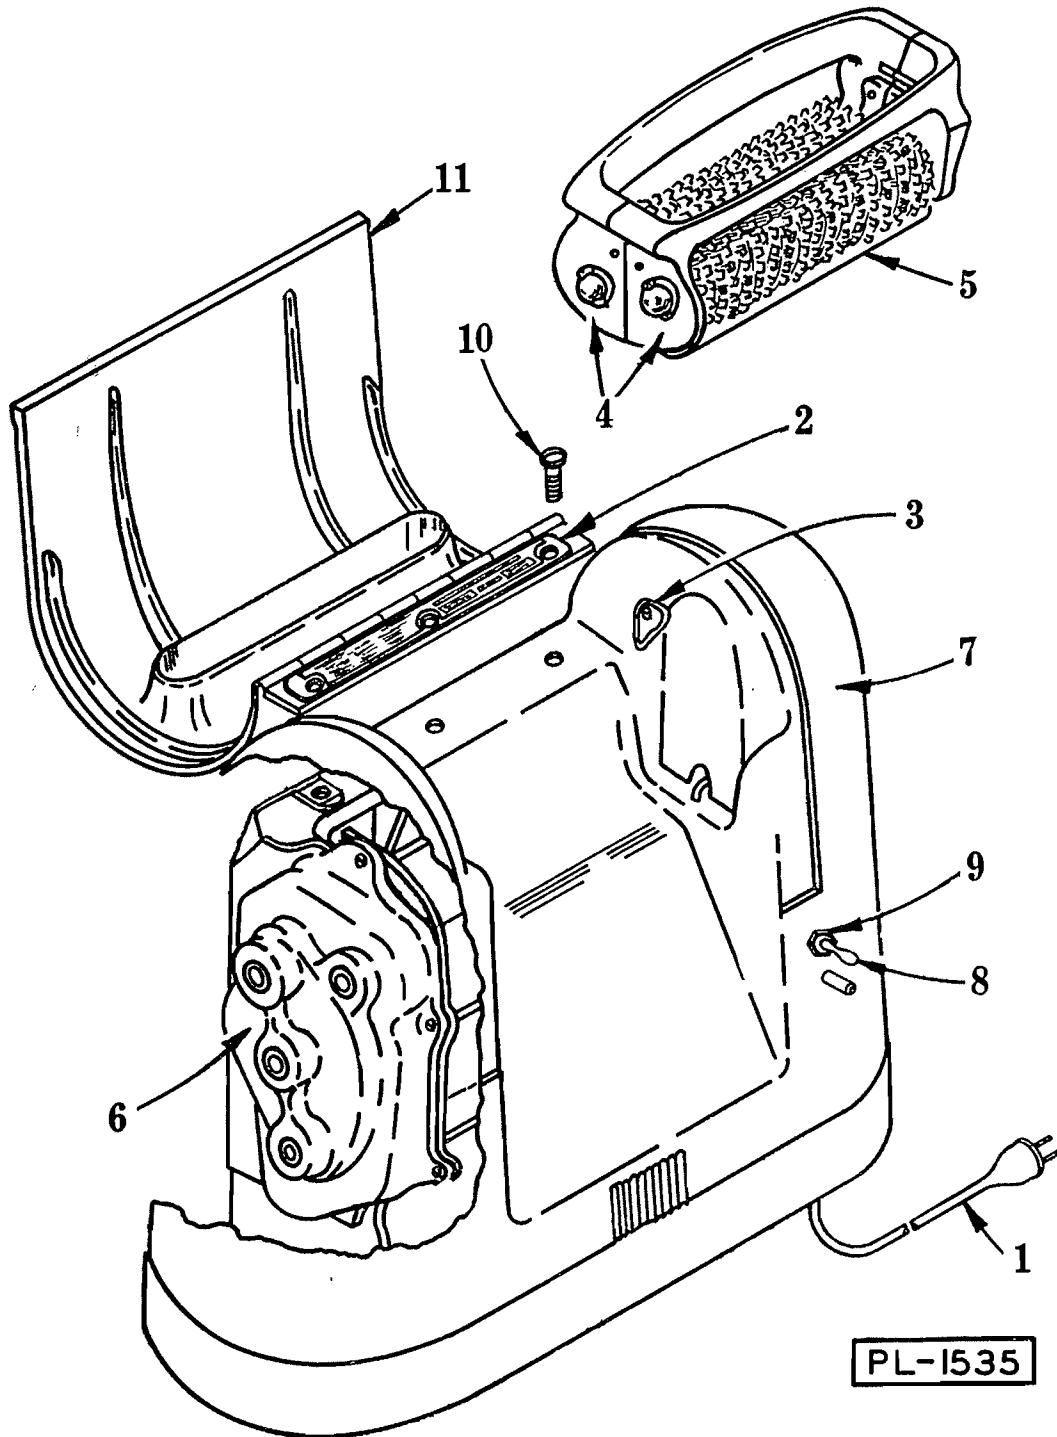

Fig. 1
**CONNECTIONS:** Each machine is furnished with cord and plug (1)(Fig. 1). Before plugging into socket, be sure the line current available is the same as specified on the machine name plate (2).
**CLEANING:** Release the lock (3)(Fig. 1), grasp both handles in one hand and lift out the entire roller (tenderizer) unit (4). To separate blade rollers, grasp one hanger handle in each hand and swing apart. Next, remove the strippers from the roller assemblies. To do this, push stripper in direction of arrow (1) Fig. 2 until stripper pivot screw (2) clears hanger. Swing stripper in direction of arrow (3). Remove by pulling in direction of arrow (4). Remove meat from stripper by hand. Flush strippers and rollers with hot running water. A fiber brush or whisk broom will help loosen meat particles. Use the hanger handle to hold the roller assembly, thus avoiding any contact with the sharpened blades. If parts are washed regularly before drying, it is a quick, easy job. Should the meat or food be allowed to dry on the parts, they will require a few minutes of soaking in water. To replace the roller assemblies (4) Fig. 1, reassemble the strippers (5), then the front and back roller assemblies. Replace the complete unit into machine, engaging the drive shafts, and lock into place.
**LUBRICATION:** This machine is gear driven and has special oil impregnated bronze bearings throughout. The gears, sealed in a cast transmission case (6)(Fig. 1), are grease packed with special grease at the factory. Once a year, have a Hobart Service man check this grease and replenish with special grease as required. The motor is oil lubricated with large capacity oil reservoirs, and should be checked annually. To properly lubricate the motor, the outside housing or body (7)(Fig. 1), should be removed. To remove the body, unlock and lift out the roller or tenderizer Unit (4). Then, disassemble the switch (8) from the body by removing the outside retaining nut (9). Next, remove the three screws (10) that retain the cover (11). Lift off the body. The motor is then exposed for easy lubrication and inspection.